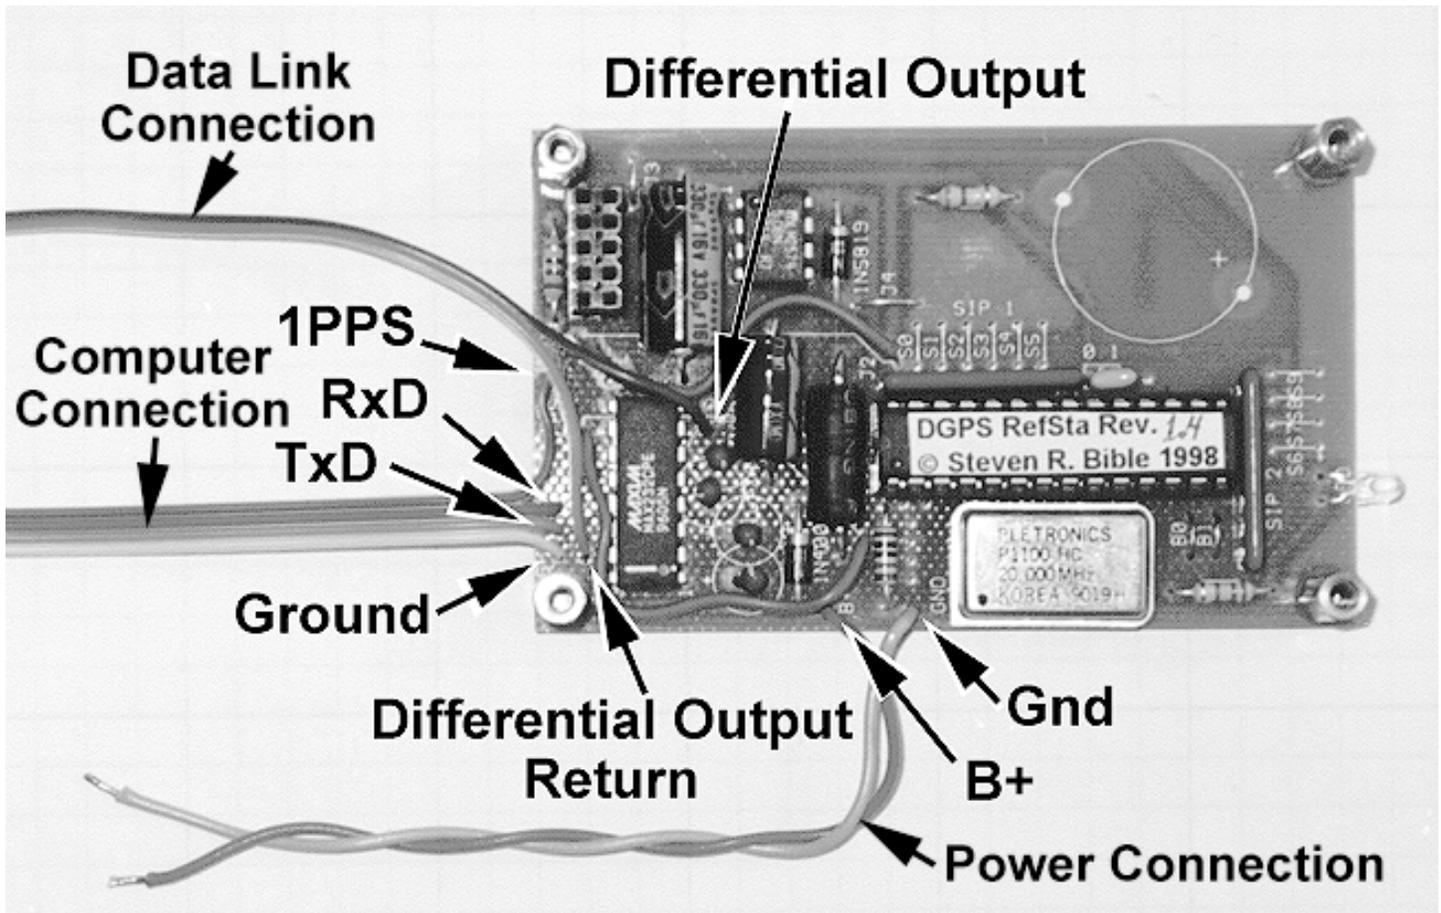

Figure 1. Location of Power and Data Connections
### Power Connection (Refer to Figure 1)
- [ ] Solder the Red wire to the B+ hole in the DGPSIB. Refer to Figure 1.
- [ ] Solder the Black (or Gray) wire in the GND hole. Refer to Figure 1. Be careful not to cause a solder bridge to the nearby resistor.
## Data Connections (Refer to Figure 1)
- [ ] Insert one end of the cable into the Data Link Connection holes labeled **Diff** and **G** (labeled as **Differential Output** and **Differential Output Return** in Figure 1).